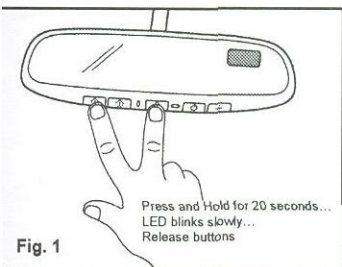

Fig. 1
1. To begin, press and hold the 2 outer HomeLink® buttons (to clear memory) until the indicator light (LED) blinks slowly (approximately 20 seconds). **Fig. 1**
Press and hold the two outer HomeLink® buttons (as shown in Fig. 1), releasing only when the HomeLink® indicator light begins to flash after 20 seconds. Do not hold for longer than 30 seconds.